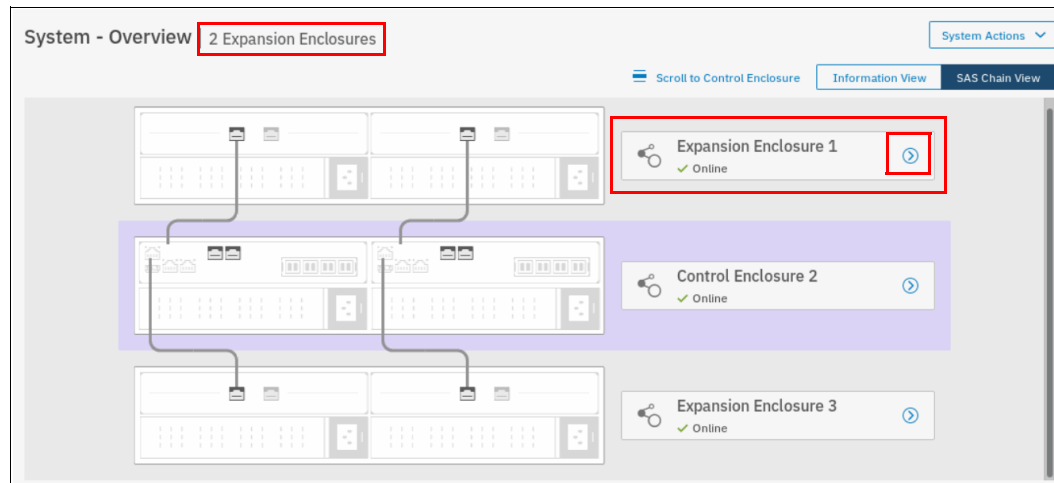

Figure 4-132 Enclosure successfully added
3. Select **Next** and then **Finish** after you are satisfied with your selections. The enclosures are then added to the system and appear as managed. Instead of the **+** button, you see a **>**, which allows you to view details about the enclosure because it is now part of the system, as shown in Figure 4-132.